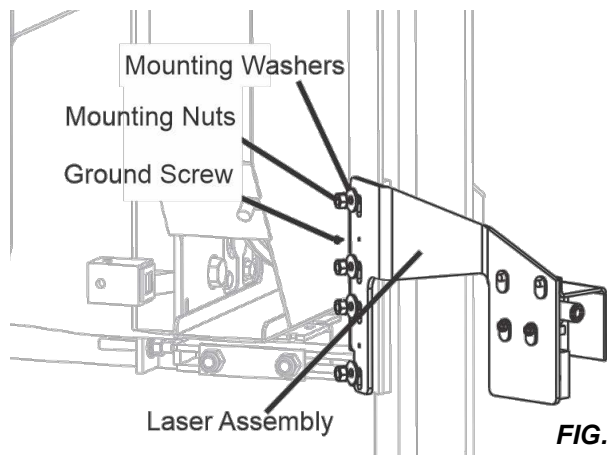

FIG. 1-1
2. Install the laser assembly to the slide pad mounting bolts as shown in FIG. 1-1.